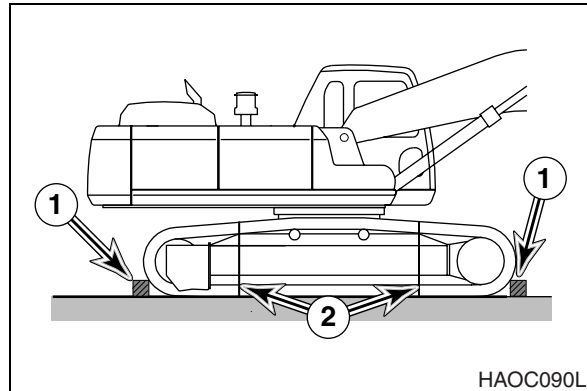

Figure 8
12. Make sure to secure the excavator onto the trailer before transporting. Place blocking (1, Figure 8) in front of and behind each track. Use chains or cable tie-downs (2) as required by local transportation laws.